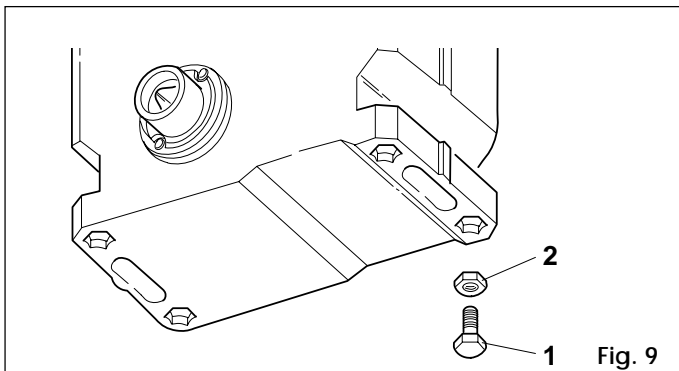

Fig. 9
- 1) With the aid of a Teflon hammer insert the adjustable feet into the hexagonal holes under the base of the gear motor as shown in Fig. 9.